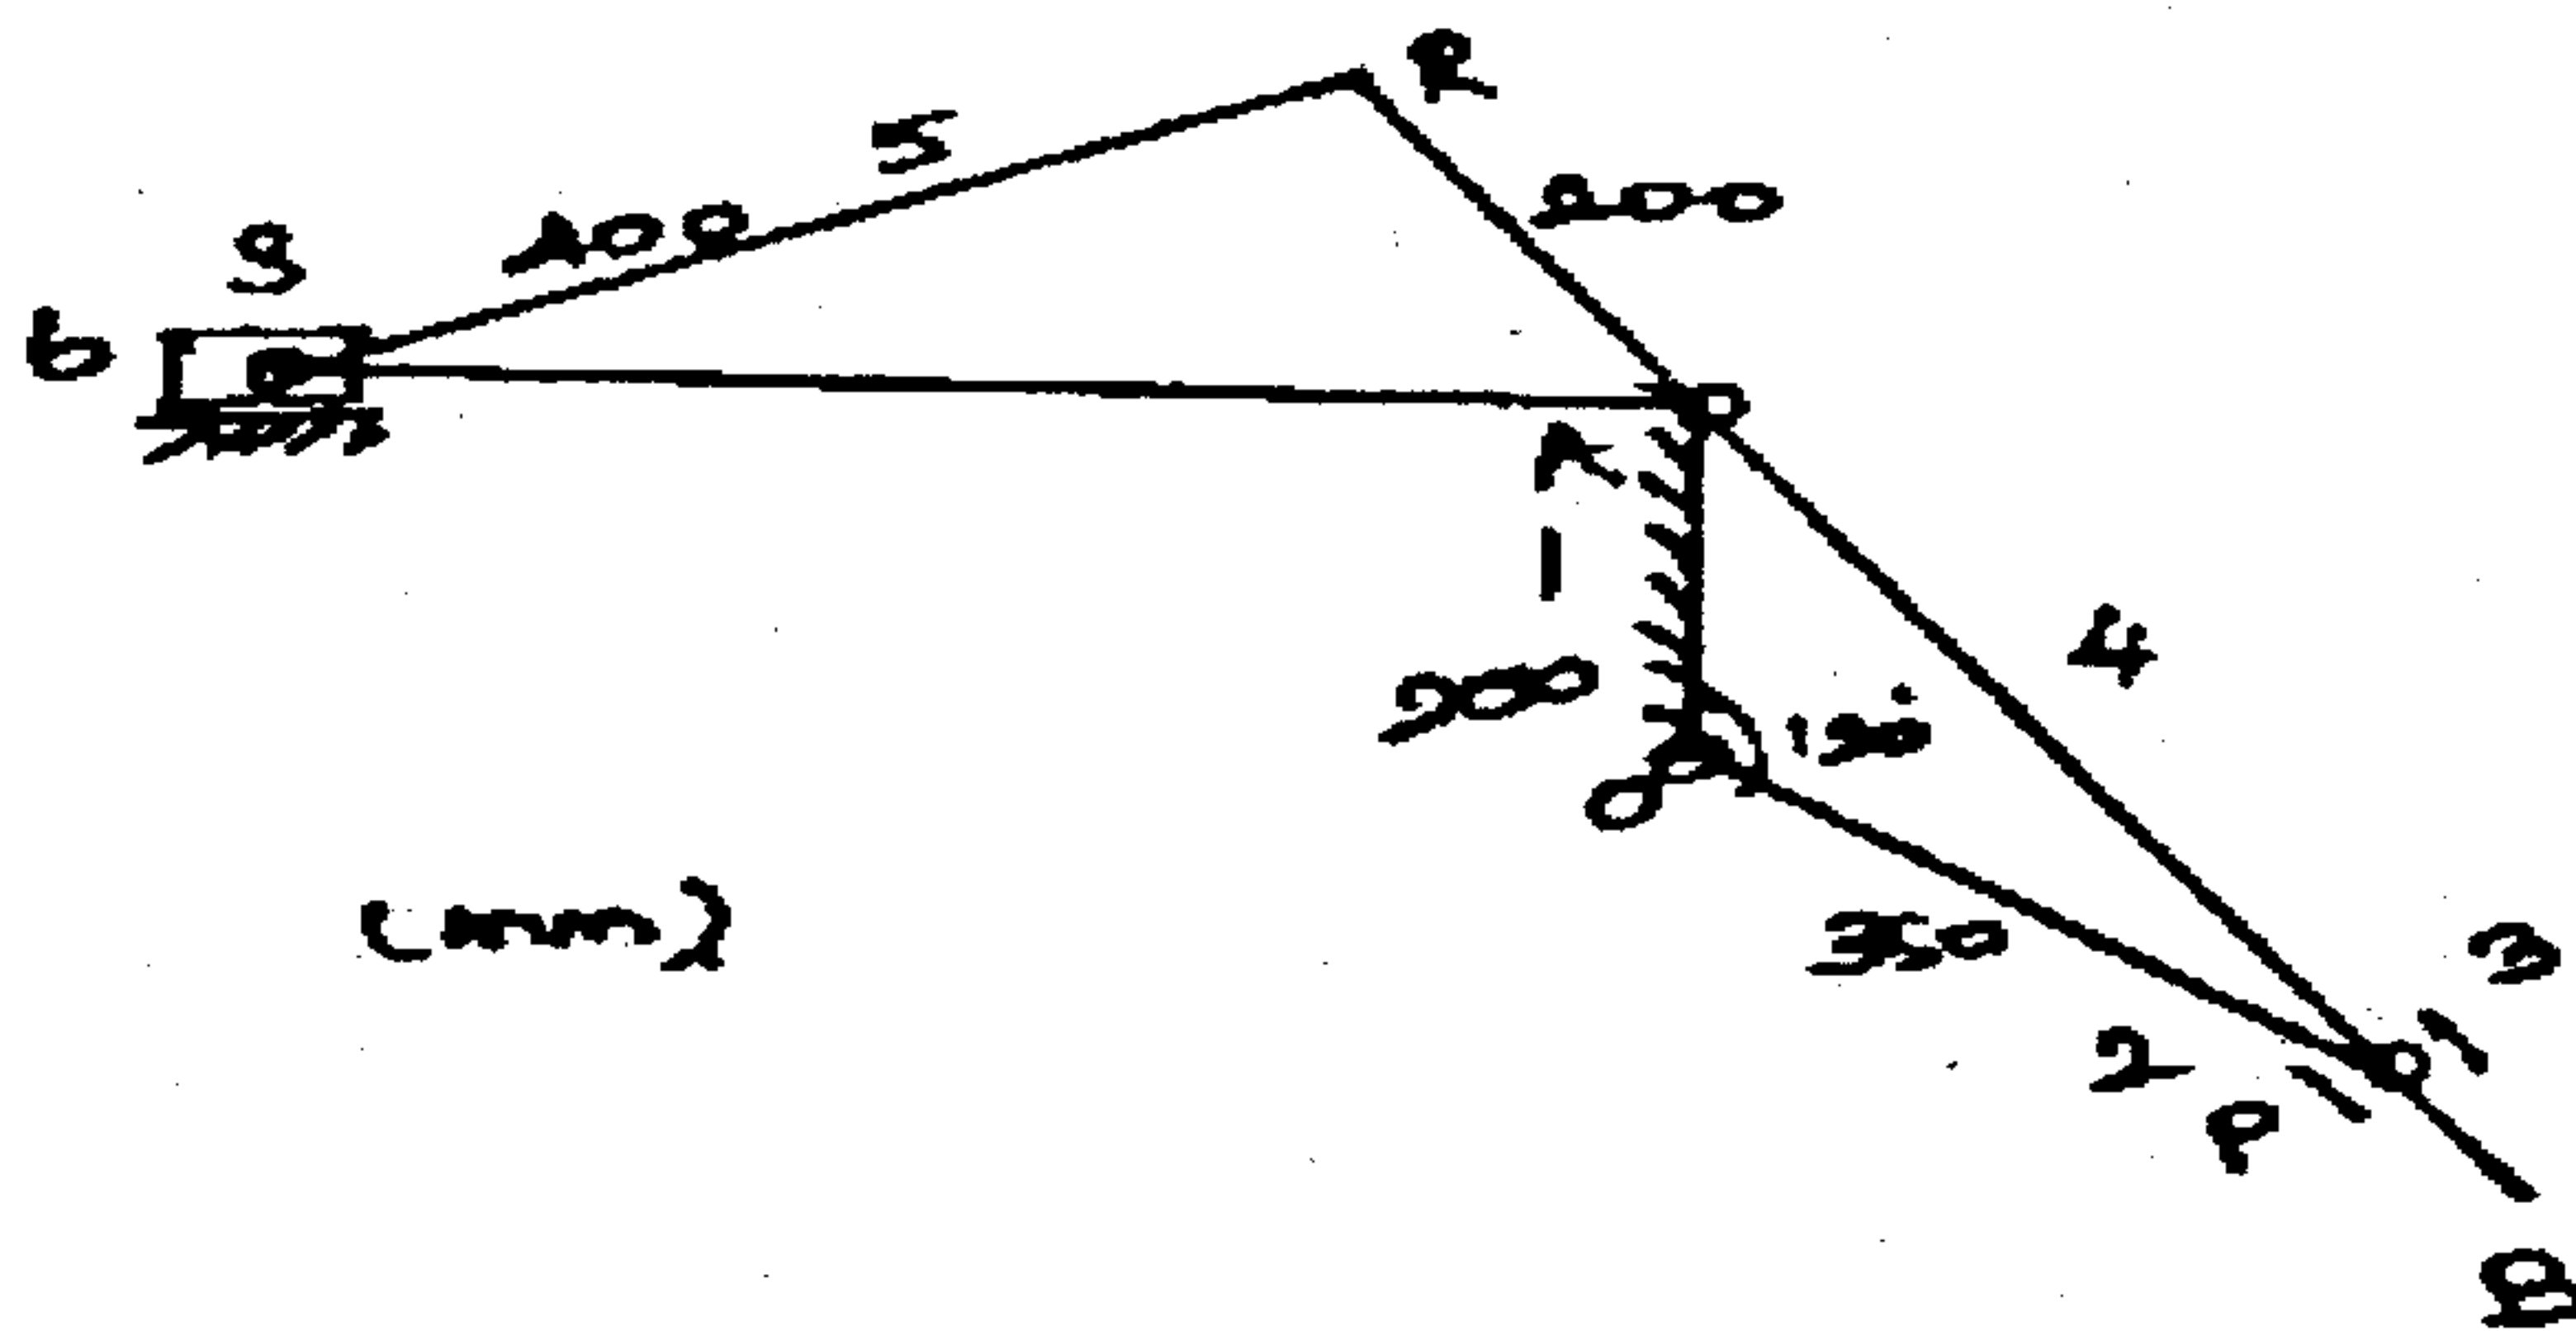

Fig. 5
- (b) (i) Fig.5 shows the configuration of a whit worth quick return mechanism. The lengths of the fixed link OA and the crank OP are 200 mm and 300mm respectively. Other lengths are AR=200 mm and RS=400 mm. Find the velocity of the ram using instantaneous centre method when the crank makes a angle of  $120^\circ$  with the fixed link and rotates at 10 rad/s.